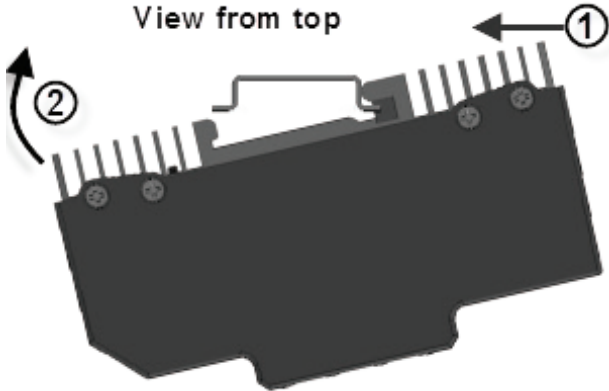

Figure 2: Snap on the Bus Power Supply - Control4 panels
- 2 With the right side already in place, press forward on the left side of the Bus Power Supply to snap it onto the rail (see *Figure 2*).